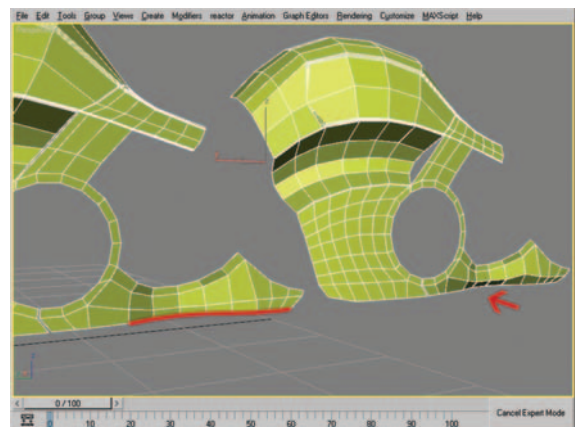

Figure 8.61 Edge selection before (left) and after moving inward to create a curve (right).
62. Select the eight edges seen in Figure 8.61 (left) and use the Move tool to reposition them so they create a curve back (along the positive X-axis) toward the Symmetry axis (center) of the bike (Figure 8.61, right).